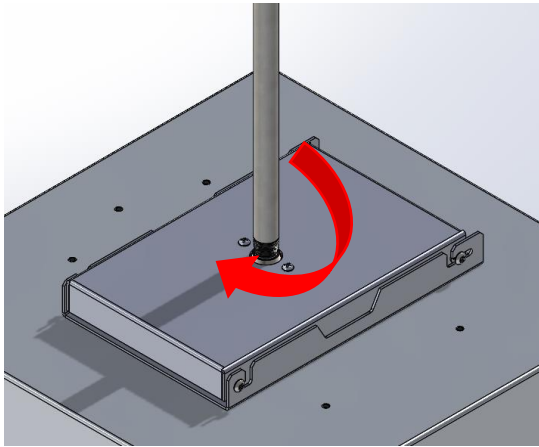

Fig. 1
- Tighten the pipe into the mount assembly. (Fig. 1)